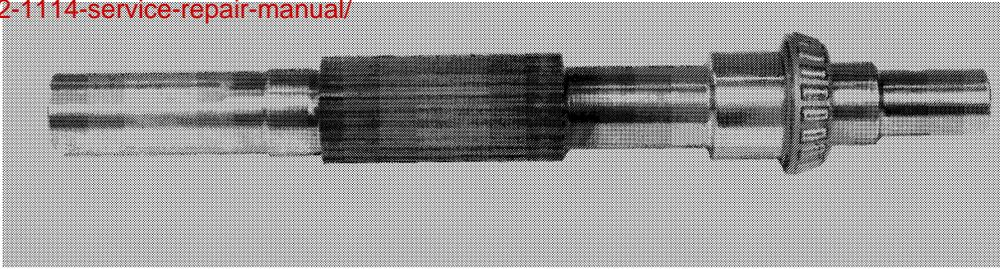
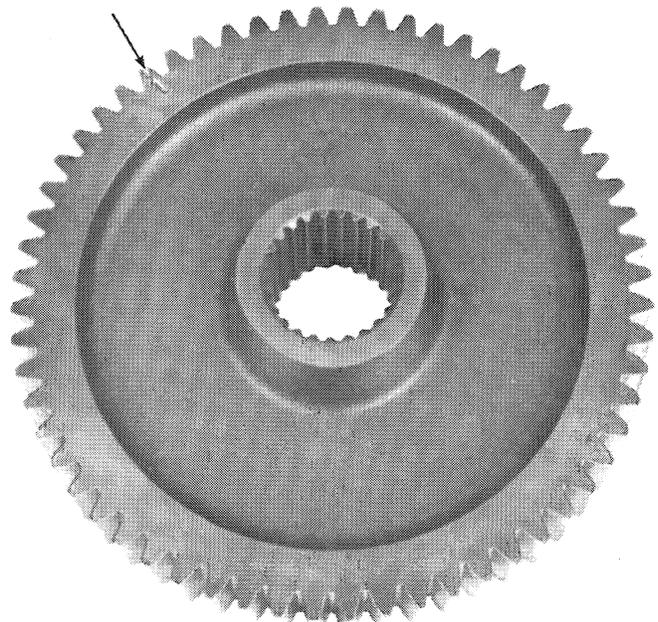

FIGURE 20
FIGURE 22
5. After pre-load has been set, lubricate lips of oil seal (33). Install seal, being careful not to damage seal during assembly.
**Output Shaft** (See Figures 20 and 21)
1. Pack left-hand and right-hand bearing cones (8 and 12) with light grease. Install right-hand bearing cone on output shaft (11). Use a suitable bearing driver and make sure bearing is seated properly. See Figure 20.
2. Install shaft (11) through bevel gear (10) and output gear (9). The **wider** hub of the output gear (9) **must be** next to the left-hand bearing cone (8). Install left-hand bearing cone on shaft using a suitable driver to prevent damaging the bearing cone during assembly. Make sure the bearing cone is seated properly on the shaft.
**IMPORTANT!** THE CORRECT THICKNESS OF SHIMS (7) MUST BE USED BETWEEN LEFT BEARING CAP AND GEARBOX HOUSING FOR CORRECT TOOTH MESH OF THE BEVEL GEARS.
3. The shim pack for the left-hand bearing cap (5) must be determined by the following method:
- A. Output gear (9) has shim factor stamped on outer rim near teeth. See Figure 22. **NOTE: Shim factor should not be confused with gear supplier identification.** The gear shim factor may range from 0 through 5. The gear shown has a shim factor of 1.